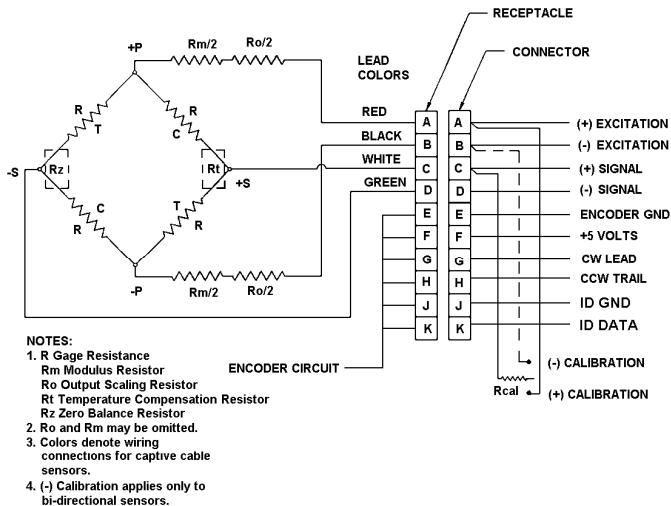

Figure 1 – Rotary Socket Wrench Transducer Wheatstone Bridge & Wiring Code
All models utilize strain gages configured into a Wheatstone Bridge Circuit to produce the primary sensing element. The four-arm Wheatstone Bridge configuration is shown below in **Figure 1**. Also pictured in **Figure 1** is the wiring code for the standard 10-pin PT receptacle.
Shunt calibration simulates the mechanical input to a transducer by unbalancing the bridge with a fixed resistor placed across, or in parallel with, one leg of the bridge. For clockwise shunt calibration, or +CAL, the shunt resistor (R_{CAL}) is shunted across the +Excitation (A) and +Signal (C) leg of the bridge. For counterclockwise shunt calibration, or -CAL, the shunt resistor (R_{CAL}) is shunted across the -Excitation (BD) and +Signal (C) leg of the bridge. See **Figure 1** for shunt resistor locations in the Wheatstone Bridge circuit utilized by rotary socket wrench torque transducers.